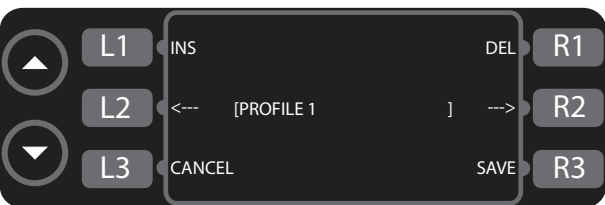

Figure 8: Name Change Screen
1. From the cooking screen (Figure 7), press L1 to access the name change screen (Figure 8).